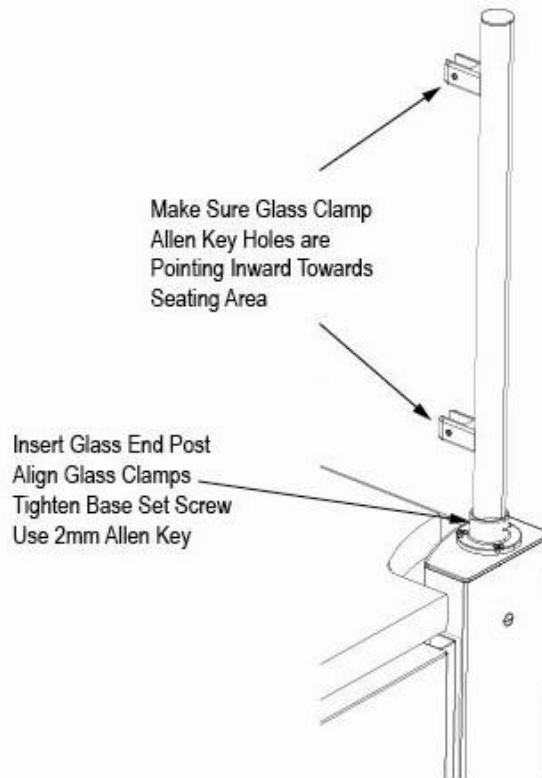

Figure 9: Align Post and Secure Post to Base
8. As shown in **Figure 9**, insert and attach the Glass End Posts inside each Base Flange component. Align the posts so they point down the length of the worksurface edge, along the path where the 20" Privacy Glass is to be installed. Once aligned, use the 2mm Allen Key to secure each Glass End Post into the base. The following step shows how to turn the glass clamps around, in the event the set screws are pointing the wrong direction.
10. Attach the 20" Glass Privacy Screen. Using a 9/16" Allen Key, back out the two glass set screws on each End Post (see **Figure 9** for details), as well as the set screw on the center Base Glass Clamp. Do not remove the set screws. Just back the screws out far enough for the screen to be